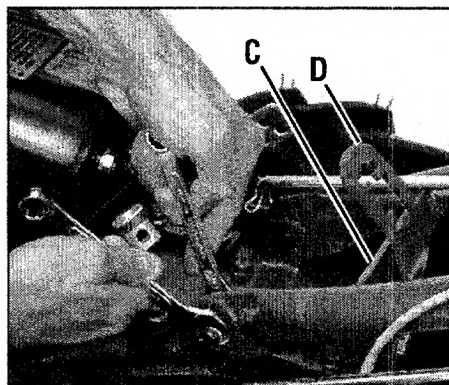

Figure 2-5: Attach handlebars.
3. Position the handlebar cross-brace (C, Figure 2-5) in front of the curved height adjustment bracket (D) and place the handlebar ends to the outside of the two mounting tabs on top of the transmission.
4. Attach the handlebars to the mounting tabs with two 3/8-16 x 1" screws (heads of screws go to inside of tabs), 3/8" flat washers and 3/8"-16 Nylock lock nuts (see Figure 2-5). Do not fully tighten the screws at this time.
7. Screw the height adjustment handle (F) into the threaded hole in the handlebar cross-brace, making sure that the raised keys on the washer fit into the selected slot on the curved bracket. Tighten the height adjustment handle securely. Next, securely tighten the two screws that attach the handlebars ends to the mounting tabs (Figure 2-5).